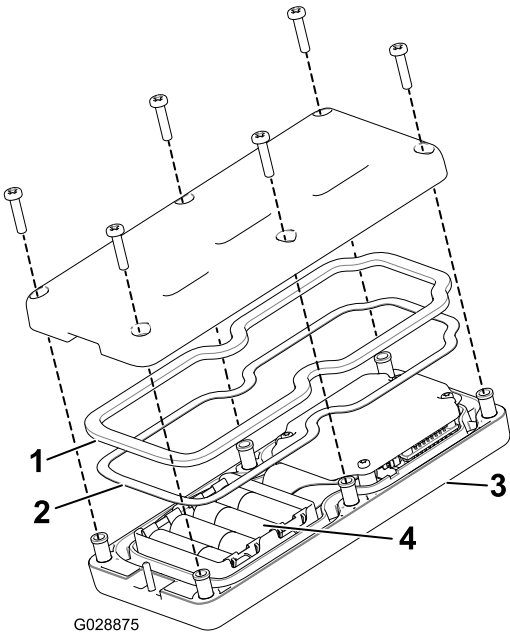

Figure 20
2. Install the batteries into the terminal cradle observing proper polarity. The cradle is embossed with polarity markings for each terminal (Figure 20).
4. Secure the cover with 6 screws (Figure 20) and torque them to 1.5 to 1.7 N·m (13 to 15 in-lb).
3. Ensure that the steel gasket and rubber seal are seated in the channel in the handheld remote and set the back cover in place (Figure 20).